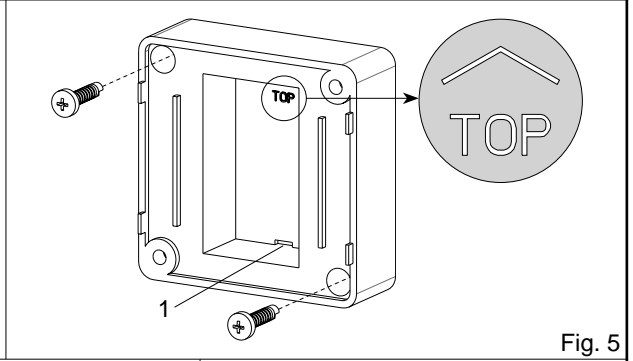

Fig. 5
- fix the battery casing to the chosen support (use 5 mm Ø screw anchors if fixing the keyboard to the wall or 3.5 mm Ø self-drilling screws for metal or steel supports, or 3.5 mm Ø self tapping for wooden or similar supports), making sure that the writing is at the top (fig. 5) so that possible condensation can drain (1 fig. 5);